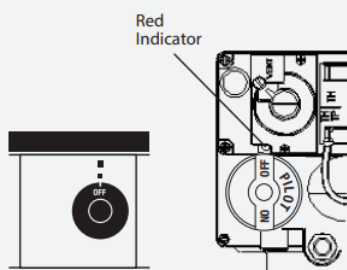

Fig. 1
7. Turn the thermostat to the "OFF" position by aligning "OFF" on the knob with the hole in panel (Fig. 1).